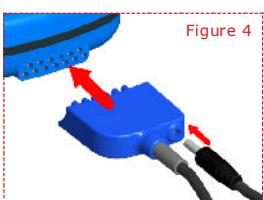

Figure 4
- Connect your AC adaptor to the bottom of your communications cable (as pictured below in figure 4).
- Connect the communications cable to the comms connector located at the bottom of your Meazura™ (as pictured below in figure 4).